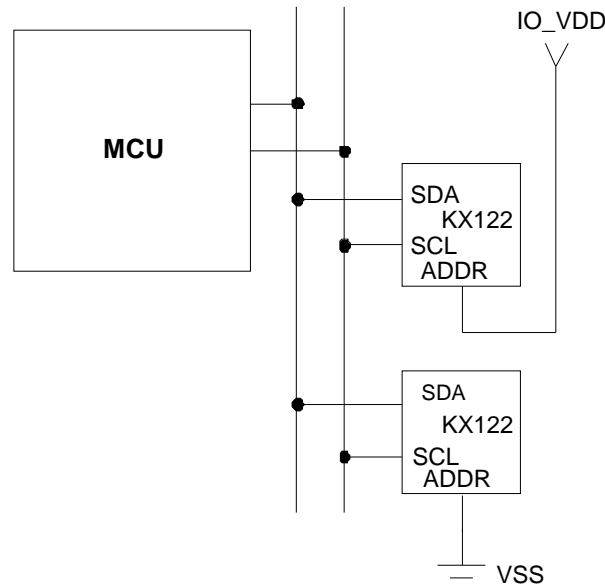

Figure 1. Multiple KX122 I²C Connection
Transactions on the I²C bus begin after the Master transmits a start condition (S), which is defined as a high-to-low transition on the data line while the SCL line is held high. The bus is considered busy after this condition. The next byte of data transmitted after the start condition contains the Slave Address (SAD) in the seven MSBs (Most Significant Bits), and the LSB (Least Significant Bit) tells whether the Master will be receiving data '1' from the Slave or transmitting data '0' to the Slave. When a Slave Address is sent, each device on the bus compares the seven MSBs with its internally stored address. If they match, the device considers itself addressed by the Master. The KX122's Slave Address is comprised of a programmable part and a fixed part, which allows for connection of multiple KX122's to the same I²C bus. The Slave Address associated with the KX122 is 001111X, where the programmable bit, X, is determined by the assignment of ADDR (pin 1) to GND or IO_Vdd. Figure 1 above shows how two KX122's would be implemented on an I²C bus.